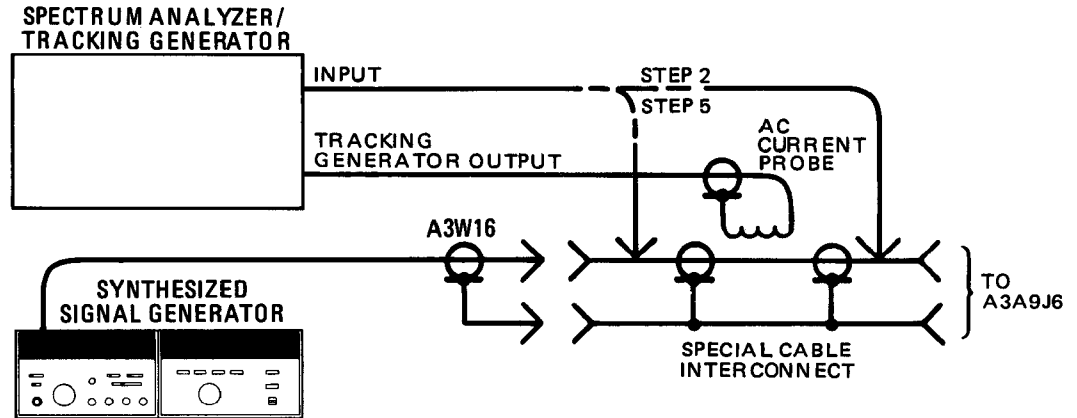

Figure 5-8. YTO Loop Phase Detector Adjustment Test Setup
2. Connect the equipment as shown in Figure 5-8. The special interconnect cable is inserted between A3W16 (gray cable) and A3A9J6 (YTO Tune 1).